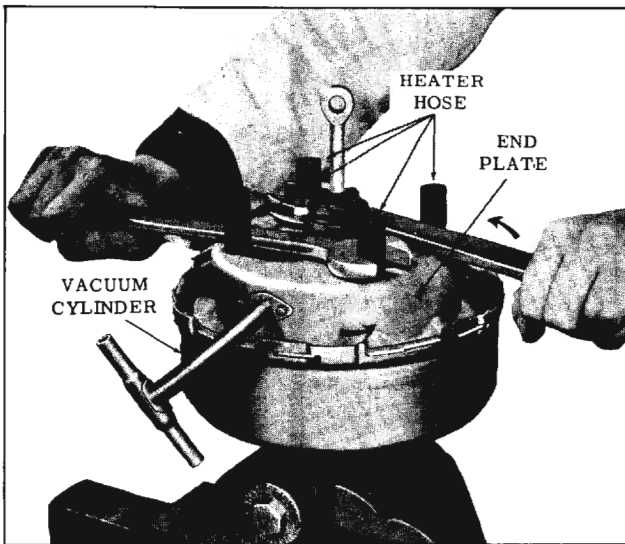

Fig. 7-18 Removing Vacuum Cylinder End Plate
3. Scribe an alignment mark on the end plate and vacuum cylinder, then using two wrenches, rotate end plate counterclockwise to separate end plate from vacuum cylinder. (Fig. 7-18)